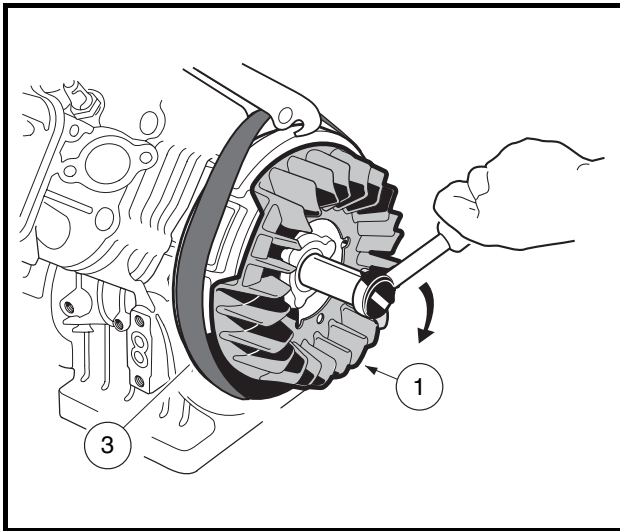

Figure 13-12 Fan and Flywheel Installation
2. Use a strap wrench (3) to keep the flywheel and fan assembly (1) from turning while tightening the flywheel nut to 63 ft-lb (85.4 N·m) (**Figure 13-12, Page 13-9**). **See following CAUTION.**